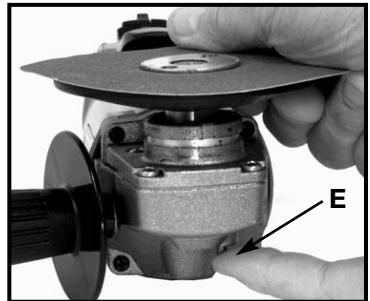

Fig. 10
4. Depress spindle lock pin (E) Fig. 10, and hold while rotating backup pad clockwise by hand until spindle lock engages.
5. While continuing to hold spindle lock pin engaged, grasp the backup pad and abrasive, and rotate clockwise to tighten (see Fig. 10).